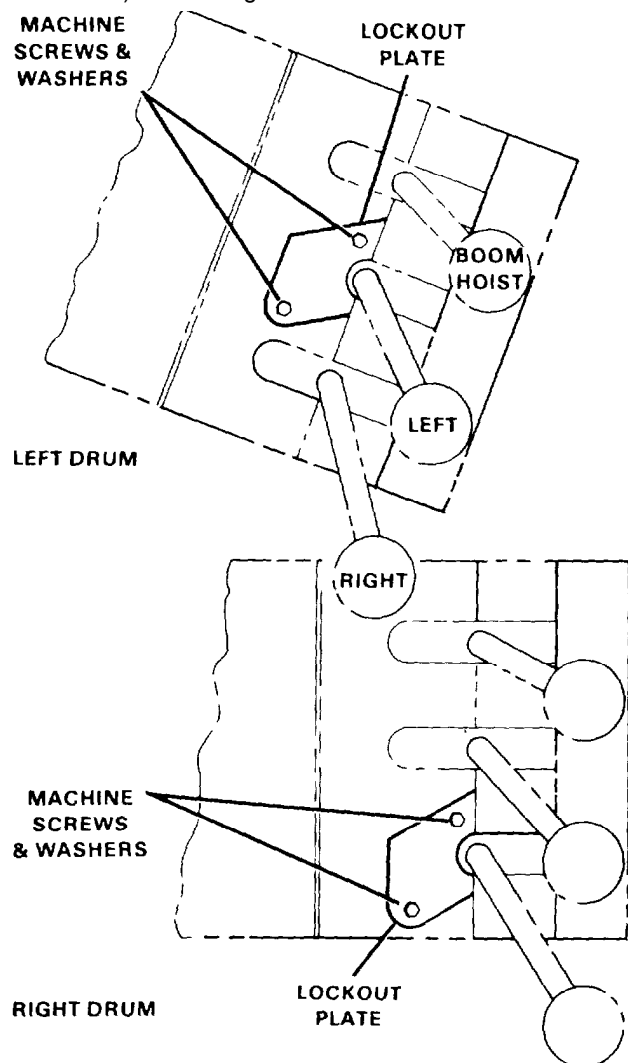

Figure 2-4. Planetary Lowering Lockouts
48. PLANETARY LOCKOUTS. Use these plates as shown in Figure 2-4 to prevent the left and right drum controls (items 06 and 08) from being moved forward. This locks out the